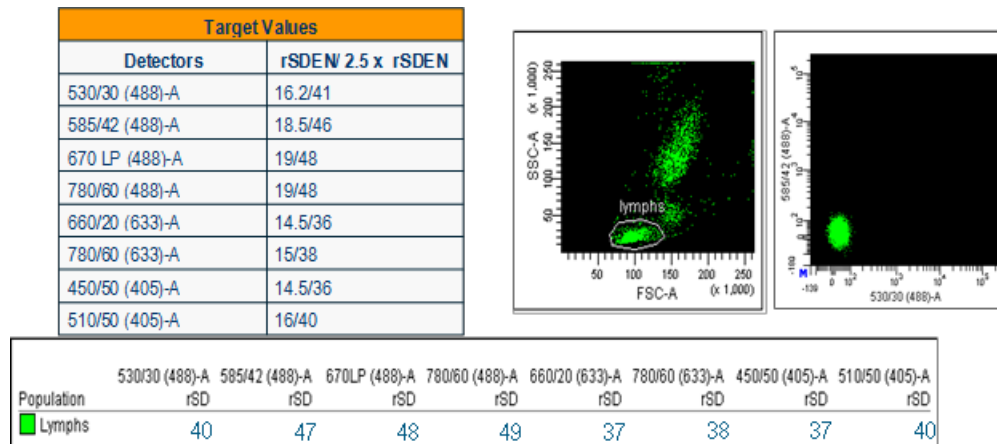

Figure 3. Adjusting the PMT Voltages. PMT voltages were adjusted as described in Section 5a using the SDEN based on the instrument’s CS&T baseline values.
- ii. Calculate 2.5 x SDEN for each PMT. A value that is equal to, or greater than SDENx2.5 will be the Application Settings Target Values for each detector (Figure 3).
- iii. Create a gate around cells of interest in the FSC/SSC plot created above (typically lymphocytes.) Create a statistics view and show the rSD values for each fluorochrome/PMT (Figure 3).